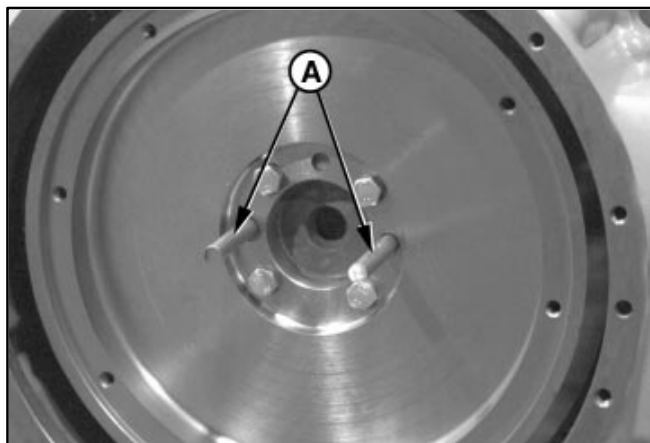

FIGURE 7-35. FLYWHEEL
- A. Remove two cap screws and install guide studs (A). See Figure 7-35.